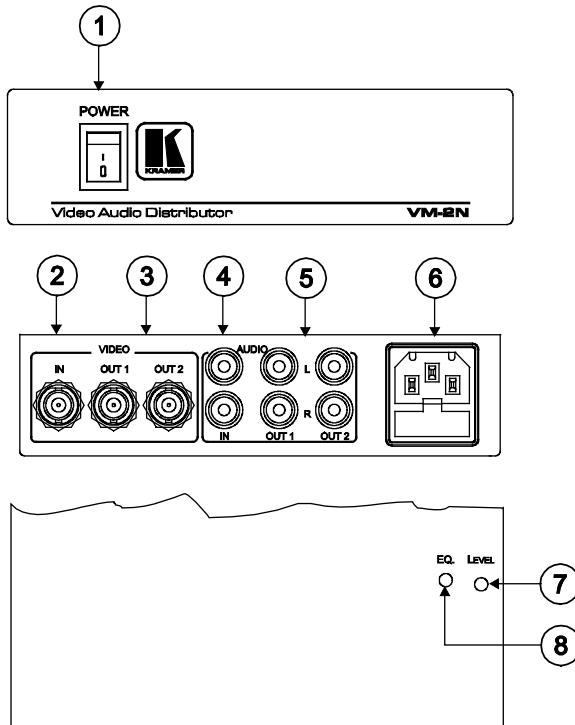

Figure 1: VM-2N Video Audio Distributor
Figure 1 and Table 1 define the VM-2N.
6. If needed, adjust the LEVEL and EQ controls on the underside of the unit (see Figure 1).